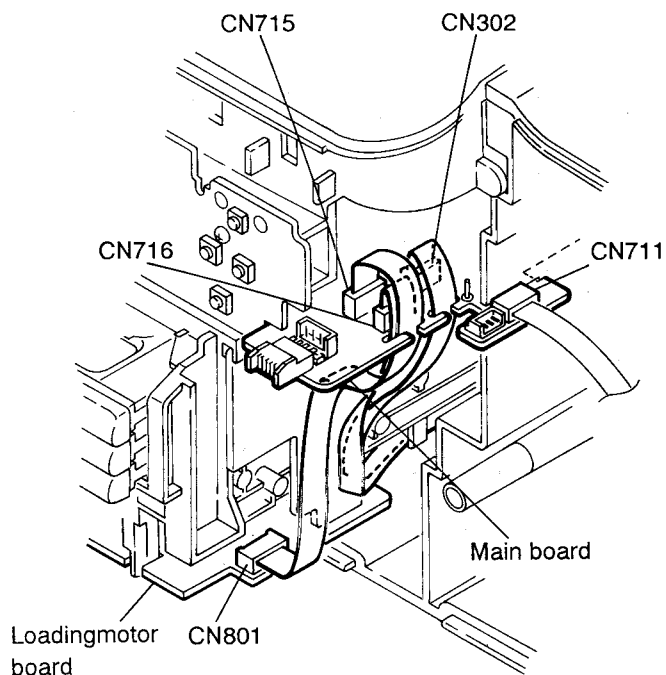

Fig. 5-5
■ Removing the CD changer mechanism assembly (See Figs. 5-5)